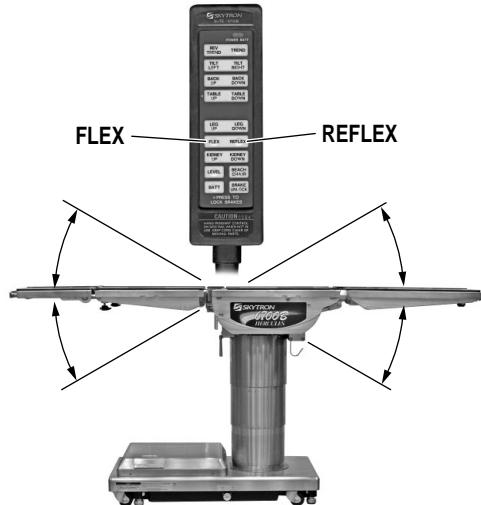

Figure 2-11. Flex/Reflex Positioning
**g. Flex Positioning.** To place the table top in a flex position from horizontal, press the FLEX button (figure 2-11). To return the table top to a horizontal position or into a reflex position, press the LEVEL or REFLEX button.